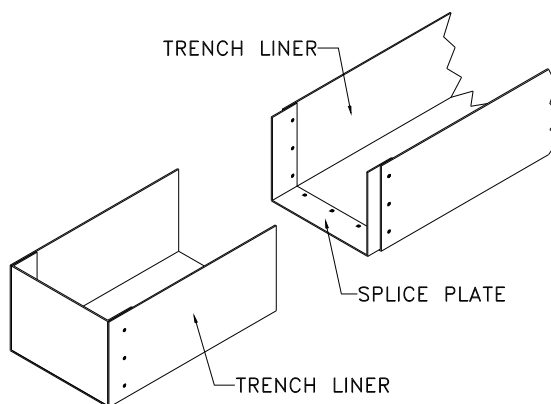

Figure 11
**STEP 3.** Place a mating section of the liner into its assembled position relative to the liner section already put into place (see Figure 11).